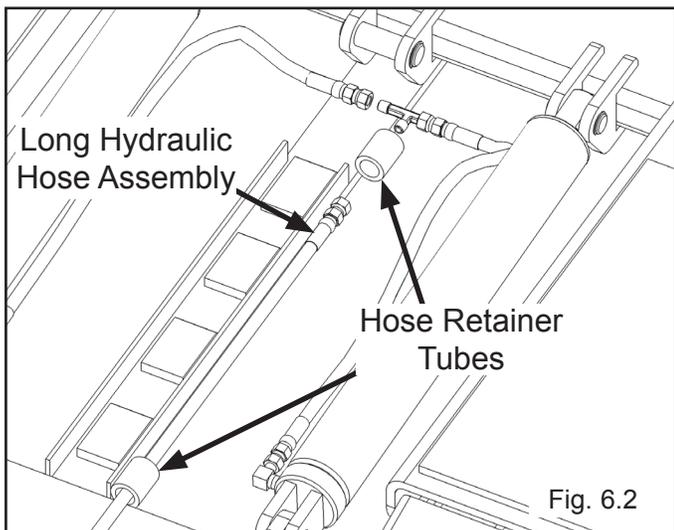

Fig. 6.2
5. Install the 90° Hydraulic Fittings in the ports on the Cylinders. Use Teflon Tape on the Cylinder side on the Fittings only. Connect one end of one of the short Hydraulic Hose Assemblies to each fitting making sure to not over-tighten. (See Fig. 6.2)